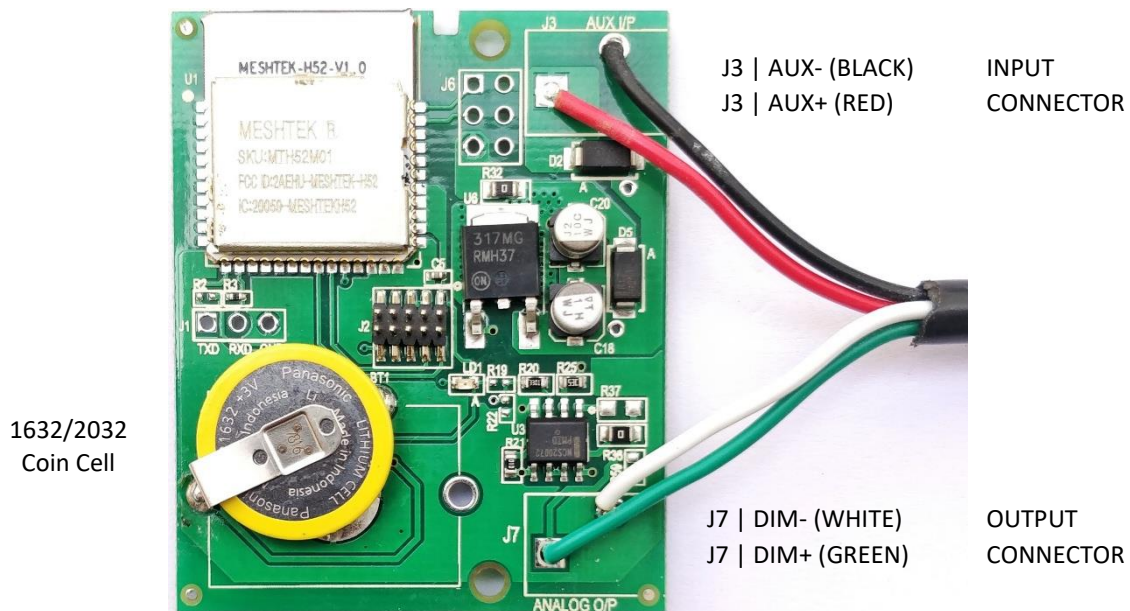

Figure 2-1 A. MeshTek® 1 Channel 0-10V SLC (41.5mm X 50mm)
- Representation of end user interface and connectors to MeshTek® 1 Channel 0-10V SLC is shown in Figure 2-1